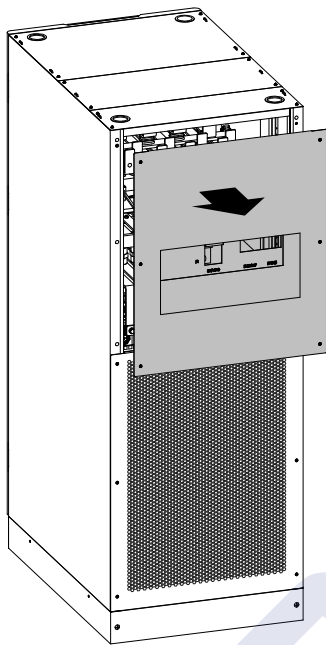

Figure3-25 Remove the back top wiring cover plate
Step 1 Remove the back top wiring cover plate, as shown in Figure3-25.